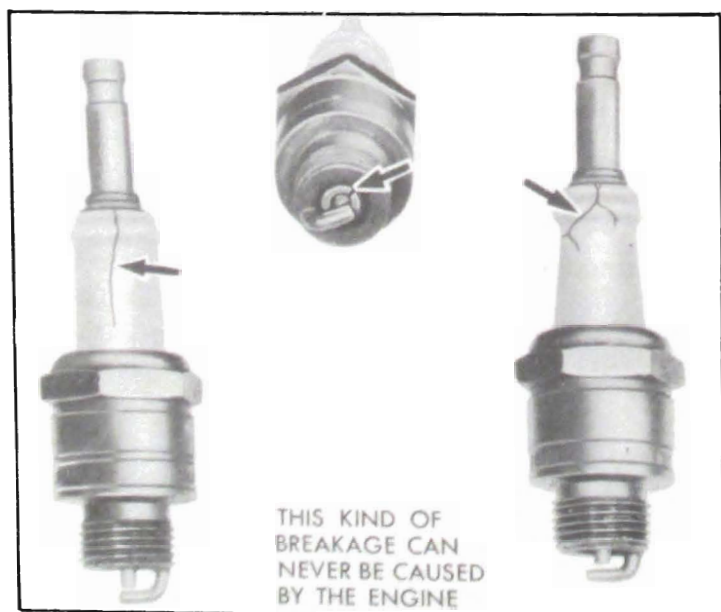

Figure 10-80—Broken Spark Plug Insulators
1. Use a  $\frac{13}{16}$ " socket wrench to remove all spark plugs. An oversized or worn wrench may distort the spark plug shell and crack the insulator. If socket wrench is allowed to press against the outer end of plug, the insulator will be cracked or broken. See figure 10-80.